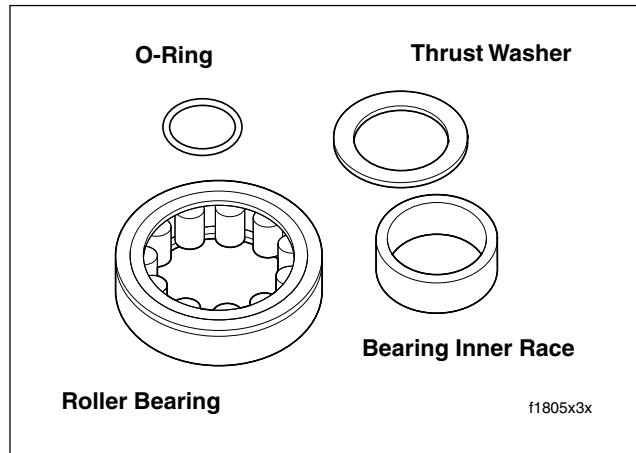

Figure 3-109. Rear Cam Roller Bearing Kit (P/N 8983)
1. Obtain new rear cam roller bearing kit (Part No. 8983). See Figure 3-109.